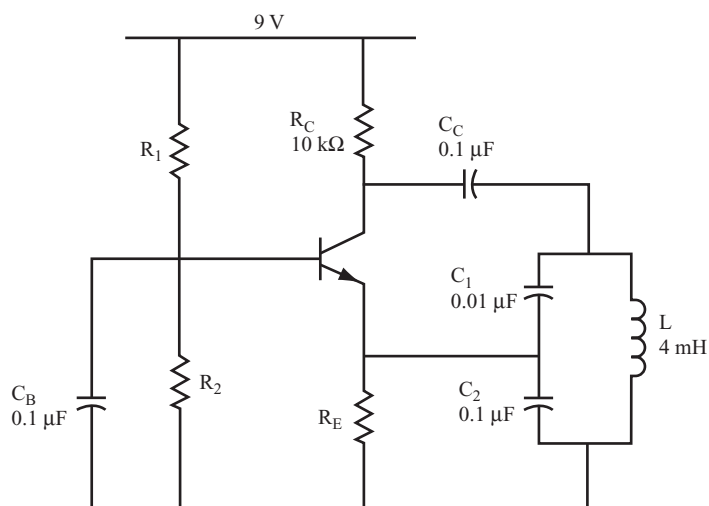

FIGURE 9.37
7. The circuit is shown in Figure 9.37.
- 32** Figure 9.37 shows the circuit designed in problem 31.